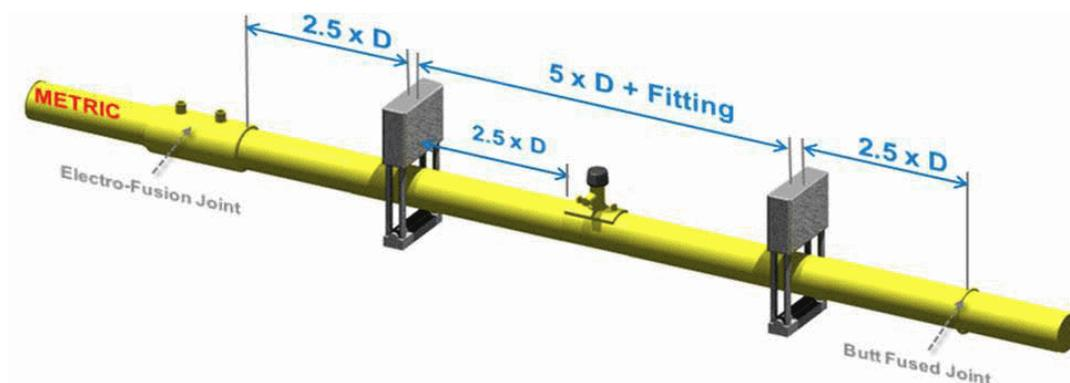

Figure 38- Minimum Squeeze-off Distances Metric Sized Pipes
1. The minimum distances shown in Figure 38 apply from the closest edge of the squeeze-off compression bar.